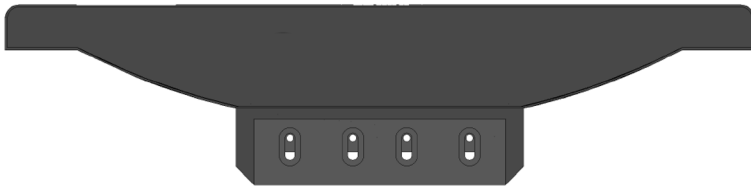

Figure 4.2 Pin Mount Bar with 4 Holes for Screws
7. Slide the overlay as far as possible towards the foot of the CT table, making sure that it is the head bracket that prevents further movement towards the foot of the CT table. The horizontal pins on the head bracket should be fully engaged in the phantom slot. Push up on the pin mount bar so that the top of the pins are in contact with the top of the phantom holder slot. Tighten the four screws which attach the pin mount bar in this position. See Figure 4.2 that shows the four holes where these screws are found. Correct position can be verified by lifting up on the head end of the overlay and verifying that vertical motion relative to CT table is less than 0.25 mm (0.010 in).